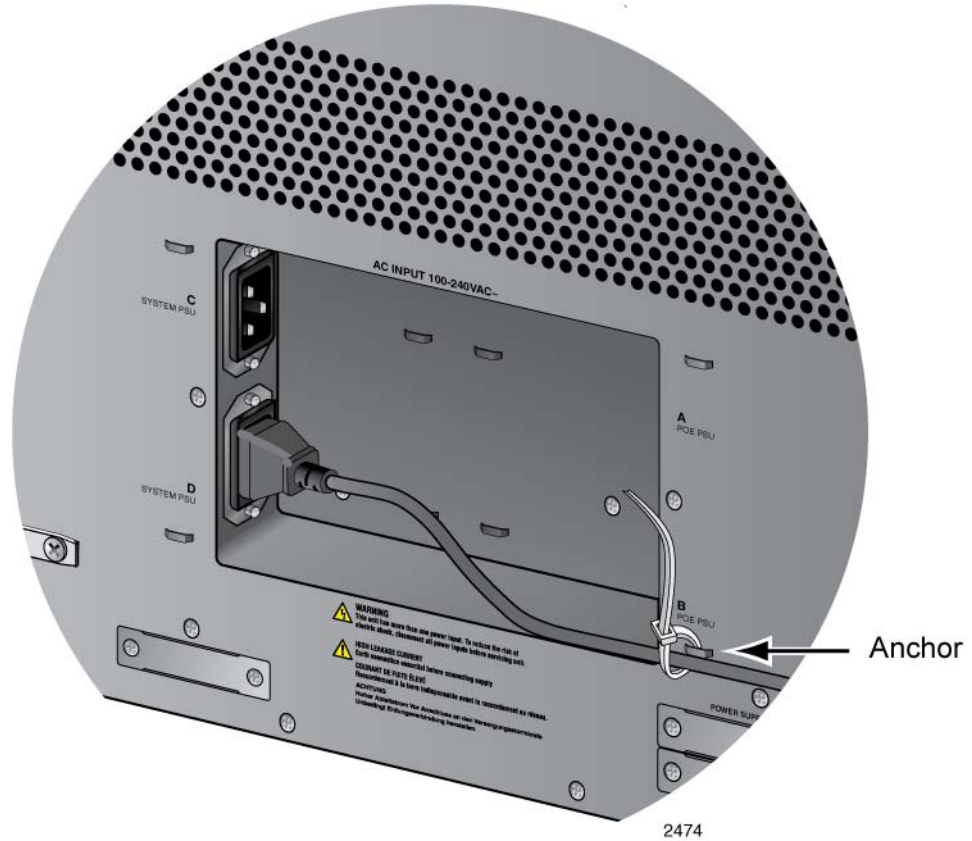

Figure 115. Securing the Power Cord for the AT-SBxPWRSYS1 or AT-SBxPWRSYS2 AC Power Supply to an Anchor
3. Use the twist tie included with the power supply to secure the cord to an anchor on the chassis to protect it from being accidentally pulled out, as shown in Figure 115 on page 192.